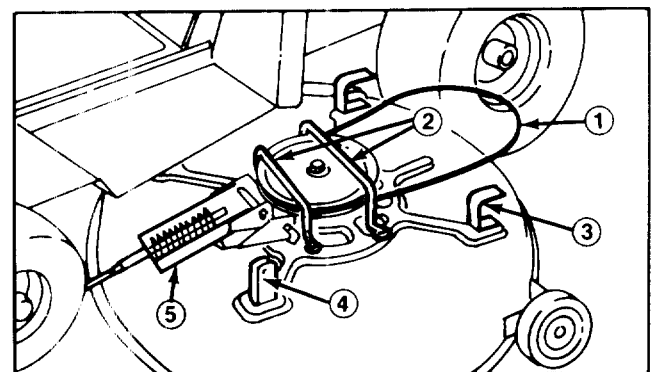

Figure 24
4. Remove cotterpins from clevis pins on front hanger brackets. Hold front of cutting unit in place with one hand, to prevent falling, and remove clevis pins to lower cutting unit to ground. Pull rear hanger brackets off pins on rear suspension arms. Set height-of-cut control to highest position and slide cutting unit from under Rider (Fig. 24).
3. Loosen and remove (1) mounting screw securing each belt guide to cutting unit. Pivot belt guides away from spindle pulley and remove belt. Visually inspect belt for wear or damage (Fig. 24).